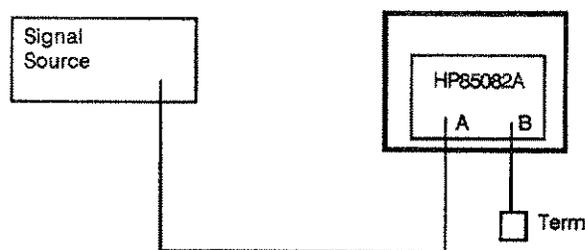

Figure 4-1. Channel Isolation Test Setup
1. Configure the equipment as shown in Figure 4-1.